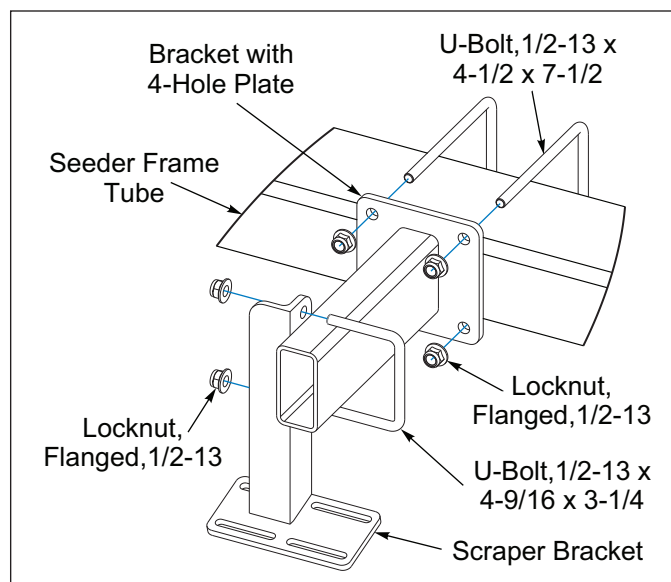

Figure 2-59: Scraper Brackets
3. Attach the Scraper Brackets to the Bracket Tube with a 1/2-13 x 4-9/16 x 3-1/4 U-Bolt and Flange Locknuts. **Do Not** tighten at this time. **See Figure 2-59.**